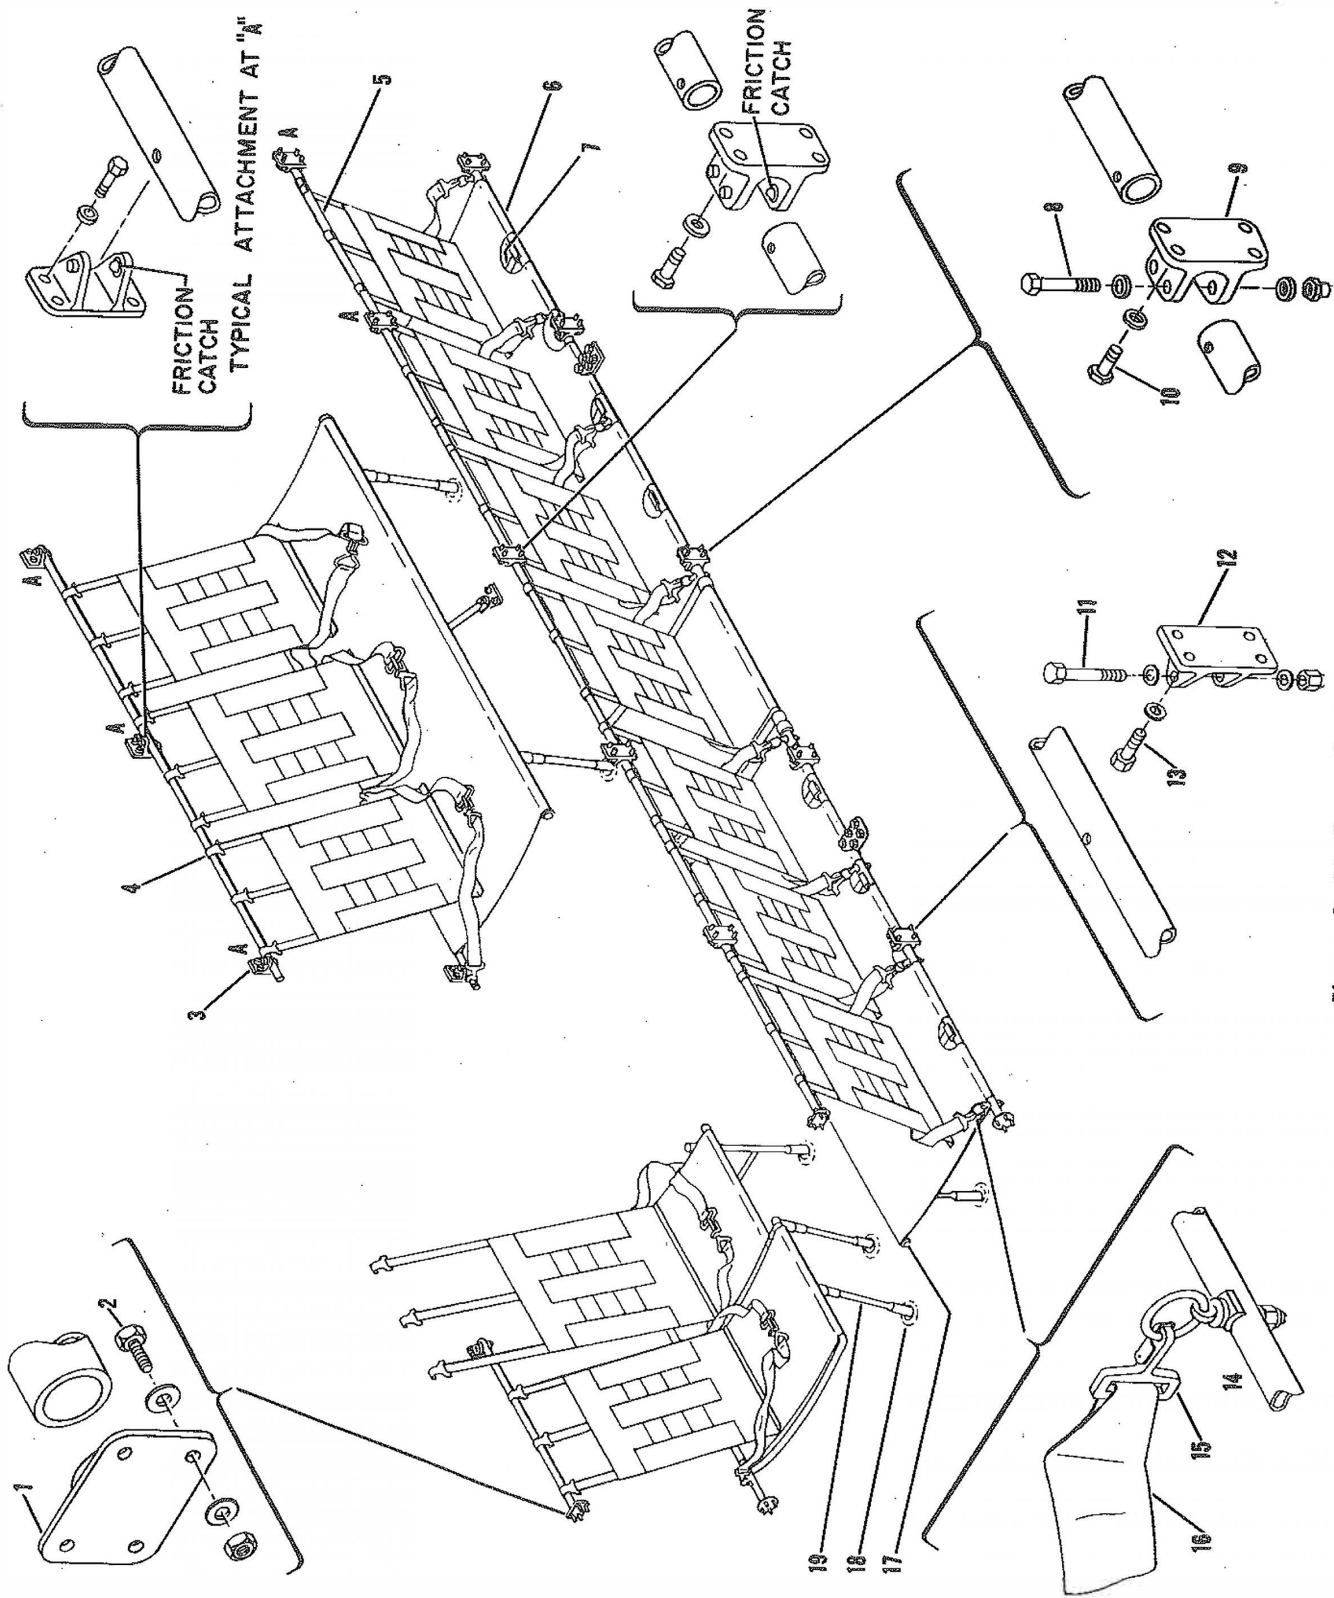

Figure 2-11. Troop Seats
2-135. DESCRIPTION. The following personnel accommodations and safety devices are provided: pilot's and observer's seats (7 and 36, figure 2-10), seat and back cushions (10, 15, 19 and 35), troop seats (figure 2-20), pilot's and observer's safety belts (11 and 34) and shoulder harnesses (16 and 31), inertia reels (13), troop safety belts (figure 2-11), personnel barrier (23, figure 2-10) and litters (figure 2-13).
2-148. DESCRIPTION. (See figures 2-11 and 2-12.)
a. Press in the ears on the lower end of the legs and release the legs from the tie-down fittings (18, figure 2-11) in the floor.
## Key to Figure 2-11
a. Press in the ears on the lower end of each support leg (19, figure 2-11) cuff and raise the legs from the tie-down fittings (18) on the cabin floor. Fold the legs (19) and spreaders (7) parallel to the seat front support tubes (17).
b. Unhook the safety belts (16) from the eyebolts (15) on the seat rear tubes (14) and remove the belts.
c. Remove the bolts, washers and nuts (8 and 11) which secure the seat rear tubes (6) to the fittings (9 and 12) along the cabin walls.
d. Release the back strap hooks (4) from the back support tubes (5) and remove the troop seats from the helicopter.
e. Remove the back support tube (5) from the fittings (3) on the cabin walls.
At points where friction catches are installed as shown in figure 2-11, pull the back support tube out of the friction catches in the fittings and remove the support tubes.
a. Position the support fittings (1, 3, 9 and 12, figure 2-11) on the cabin walls and bulkheads and install the bolts and washers (2, 10 and 13).
b. Position the seat back tube (5) in the fittings (1 and 3) and install the bolts, washers and nuts.
At points where friction catches are installed as shown in figure 2-11, press the back support tube into the friction catches in the fittings.
2-158. DESCRIPTION. Lap-type safety belts (16, figure 2-11) are provided on each troop seat. A hook on the end of each safety belt is snap-locked to an eyebolt ring secured to the troop seat rear tube.